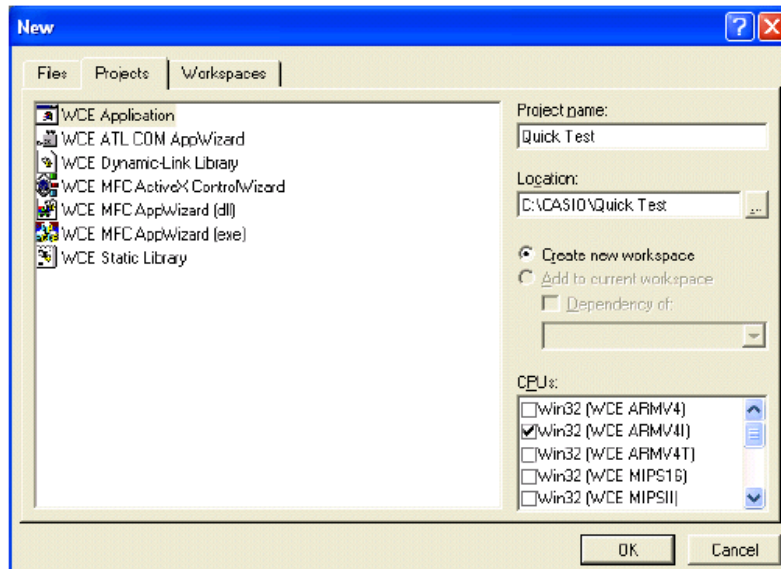

Figure 8.1
3. Highlight **WCE Application** in **Projects** tab. See Figure 8.1.